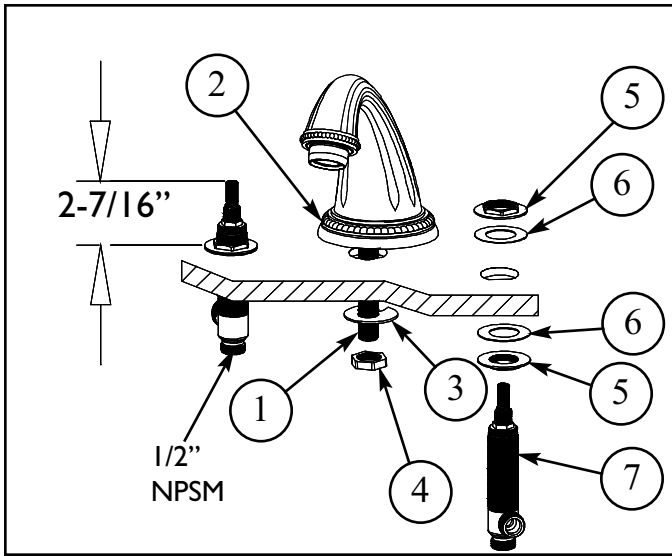

Figure 1
1. Place the spout SHANK (1) through base RING (2) and center hole of mounting surface. Secure spout into place with WASHER (3) and NUT (4), (align the WASHER (3) slot in direction of pop-up rod). See Figure 1.
2. Place flange NUT (5) and WASHER (6) on valve BODY (7). Insert BODY (7), (blue cold & red hot), through hole in the mounting surface. Adjust and secure with additional WASHER (6) and flange NUT (5) so that the top of valve is 2-7/16" above top of mounting surface. Before tightening down flange NUT (5), check HANDLE (15) alignment by placing onto VALVE (7). Any adjustments for rotational alignment must be made to the valve BODY (7), not to the cartridge. See Figure 1.